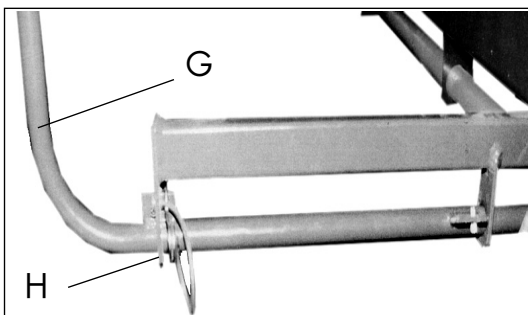

Fig. 3-17
4. Pull out the deflector bars for parking position and travelling on roads (G) and lock with spring pin (H) (fig. 3-17).